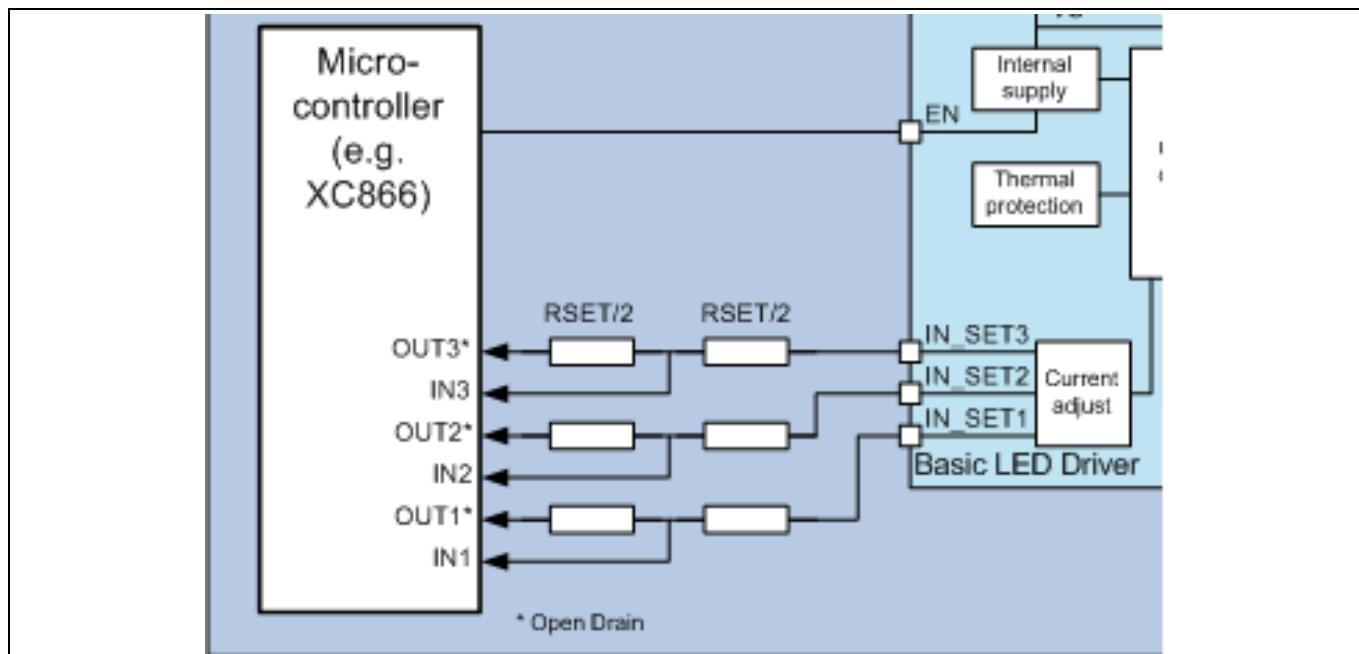

**Figure 43 Open Load and Short Circuit Detection Application Circuit (ST pin diagnosis)**
- Figure 43 shows a possible application circuit for diagnosing an OL or SC to ground fault. This example is for a device with an ST pin and an application which has a microcontroller available.